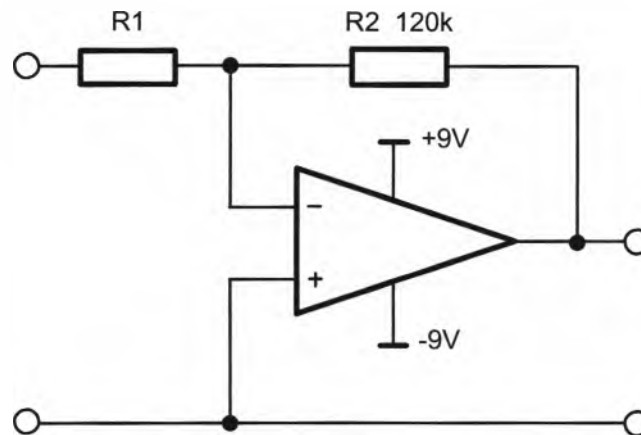

Figure 18
78. What value of resistance does $R1$ in Figure 18 below need to be for the circuit to have a gain of -13?
90. What value of resistance does R_2 in Figure 18 below need to be for the circuit to have a gain of -138?